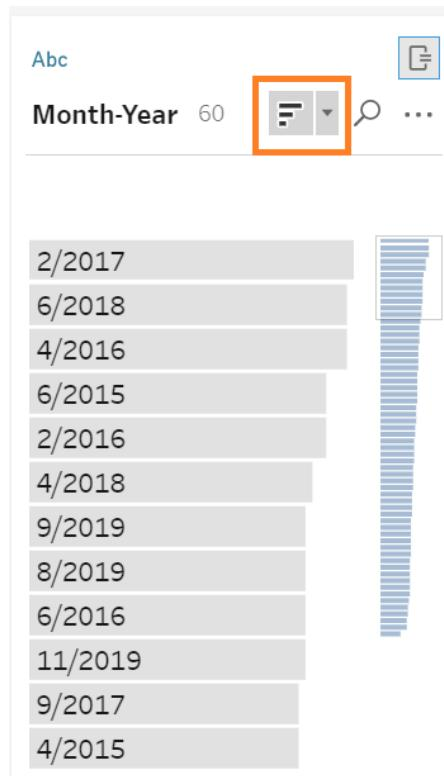

Figure 3.136: Identifying the month-year combination with highest orders
8. To see the highest orders, use the sort option (highlighted in Figure 3.136):